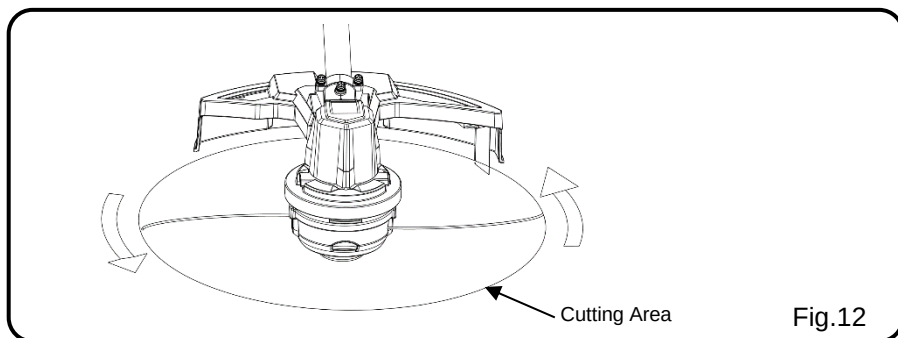

Fig.12
CUTTING TIPS (See Figure 12.)
- The trimmer cuts when passing the unit from right to left. This will avoid throwing debris at the operator. Avoid cutting in the dangerous area shown in figure 12.